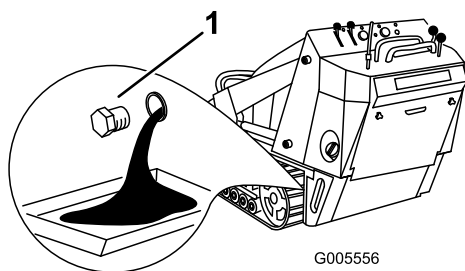

Figure 42
4. Remove the drain plug (Figure 42).